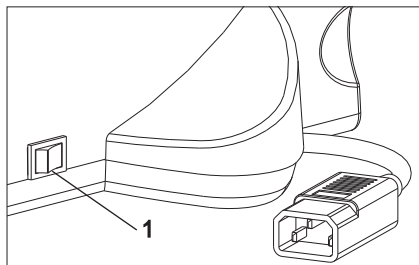

Fig. 12
1. Flip the main switch to "I" (ON) as shown in Figure 12.